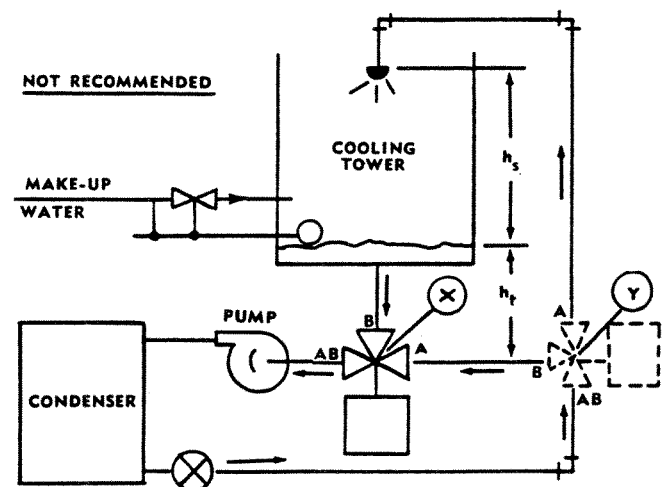

FIG. 14B
A. Not Recommended (Fig. 14B, Location X): It has been general practice to specify a three-way valve for tower control located at point X in a piping arrangement as shown in Fig. 14B, allowing the use of a less expensive mixing type three-way valve body. This location often turns out to be unsatisfactory, however, as pressure drop through the valve plus piping friction losses may easily result in a negative operating pressure (below atmospheric pressure) at the pump inlet, causing pump cavitation. This is particularly true when the cooling tower is located some distance away, but at or near the same level as the pump, as the positive static head (h_t) will be very small in relation to piping and valve pressure losses. This location also has another problem as noted below, and is, therefore, not recommended.
B. Not Recommended (Fig. 14B, Location Y): The problem of the control valve pressure drop appearing as a negative drop on the suction side of the pump can be eliminated by relocating the three-way valve to point Y in the same piping arrangement. However, this arrangement requires a diverting type three-way valve, and still has the disadvantage that the system pressure drop through the by-pass will be somewhat less than the pressure drop through the tower leg (which has much more pipe, spray heads, etc.). This is particularly true if the valve is located near the pump rather than at the tower, and results in an increased water flow rate through the pump and condenser as the valve modulates to by-pass more water around the tower under reduced loads. On water chillers, this will often lead to chilled water control instability (particularly on absorption machines) as well as to increased condenser pump horsepower.
3. Tower winterizing requirements are greatly reduced or eliminated. Whenever the refrigeration machine is operated at outdoor temperatures below 32F, the rejected condenser heat in the water by-passed to the tower sump, plus the fact that full water flow always circulates through the sump, will normally prevent any freezing of the sump and drain lines. Additional heat to prevent freezing will normally be needed only when the refrigeration machine is shut down. This would not be true if only spray water reached the sump during below freezing conditions, as would be the case with arrangements shown in Fig. 14B.